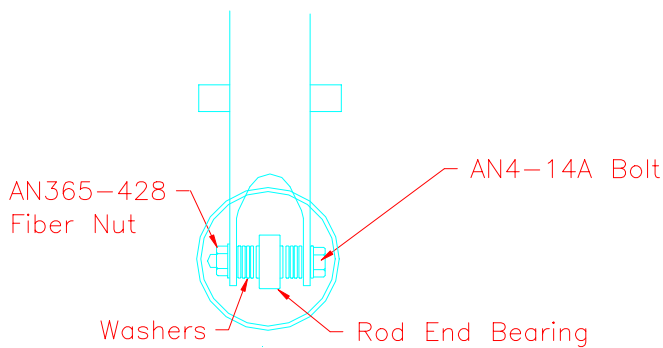

Figure 15.4.3
3) Attach one end of the connector tube to the passenger stick assembly. Use AN960-416 washers to take up the excess space. Figure 15.4.3.